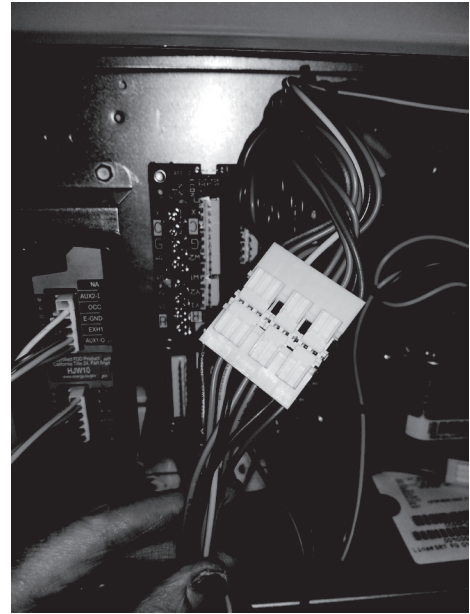

Fig. 9 — Connect 10-pin Plugs Together
12. Connect the 10-pin female ECON plug removed from the CTB to the 10-pin male plug from the Jade controller harness. See Fig. 9 and page 9.